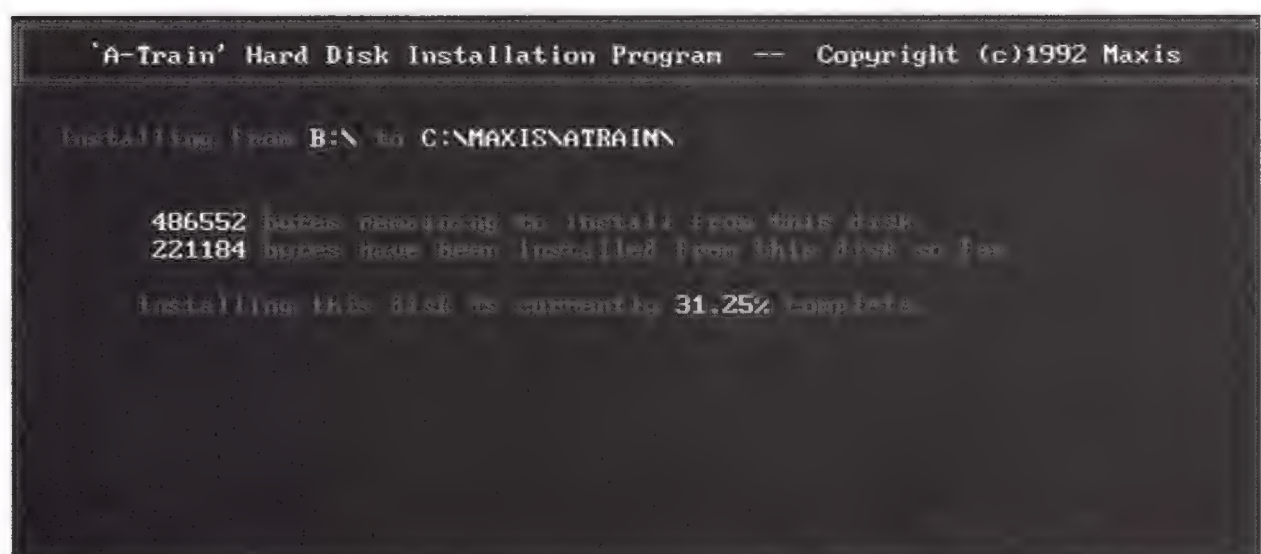

Figure A.7 Installation progress report
15. A status report for the installation of disk #2 will appear, looking just like Figure A.7. When the installation program finishes with disk #2, it will prompt you to insert disk #3.